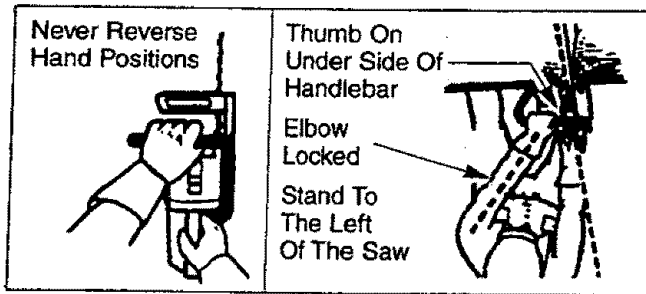

Figure 4
- Keep a good, firm grip on the saw with both hands when the engine is running and don't let go. Figure 4. A firm grip can neutralize kickback and help you maintain control of the saw. Keep the fingers of your left hand encircling and your left thumb under the front handlebar. Keep your right hand completely around the rear handle whether you are right handed or left handed. Keep your left arm straight with the elbow locked.
- Position your left hand on the front handlebar so it is in a straight line with your right hand on the rear handle when making bucking cuts. Figure 4. Never reverse right and left hand positions for any type of cutting.
- Stand slightly to the left side of the saw to keep your body from being in a direct line with the cutting chain. Figure 4.